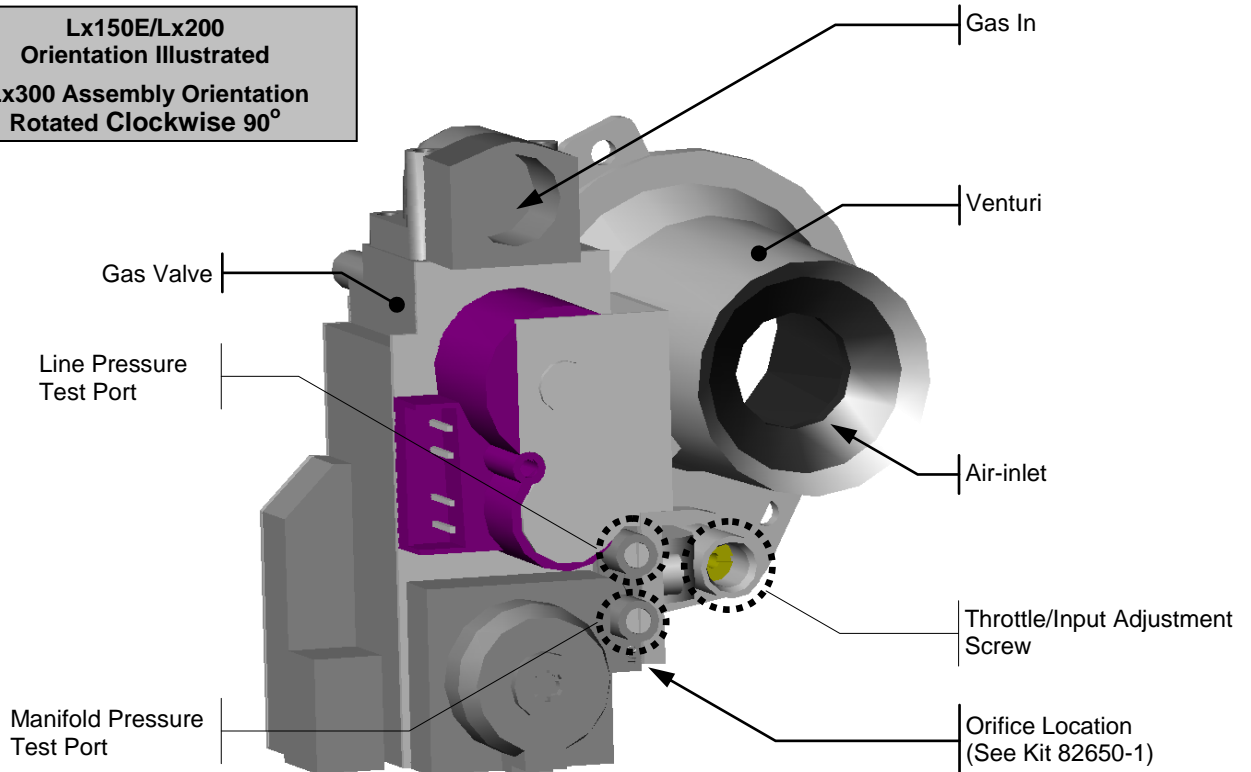

Figure 9-3 Gas Valve and Venturi Assembly (Lx400)
**Lx400 Adjustments** - The throttle screw for the Lx400 is a geared valve with a 4:1 ratio. Adjusting the throttle screw 4 complete turns will return the valve to the original location, 2 turns from fully open will completely close the valve. Typical adjustment required is 0-1/4 turn in or out from the factory setting. See Figure 9-3 for throttle screw location.